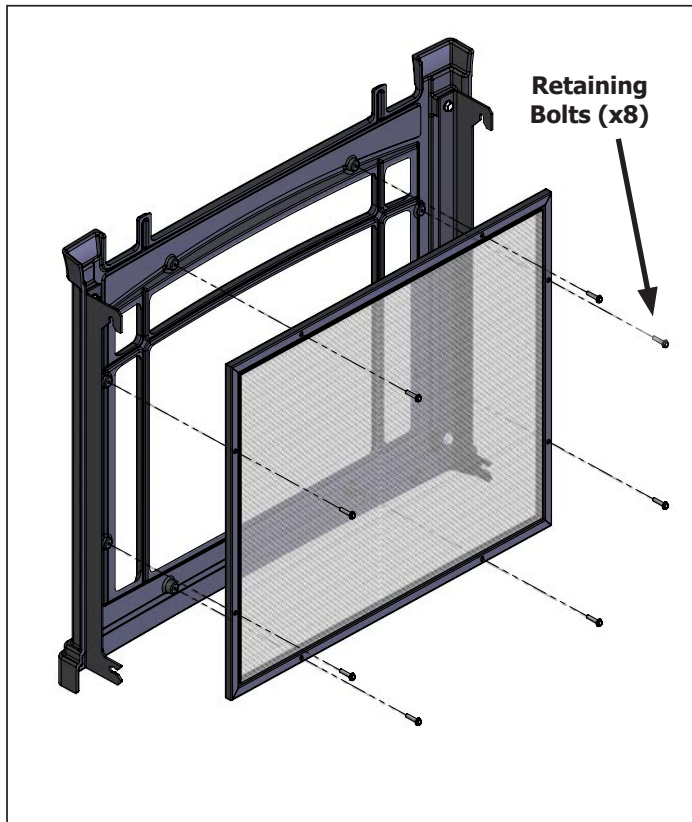

Figure 55. Safety Screen Removal - Front
**Step 4:** If replacing the side screen skip to step 5. If replacing the front screen remove the eight (8) retaining bolts (Figure 55) using a 1/4" socket and remove the damaged screen while noting the orientation. Install the new screen (50-3715) by simply re-installing the retaining bolts. Re-install the cast door and top to finish.